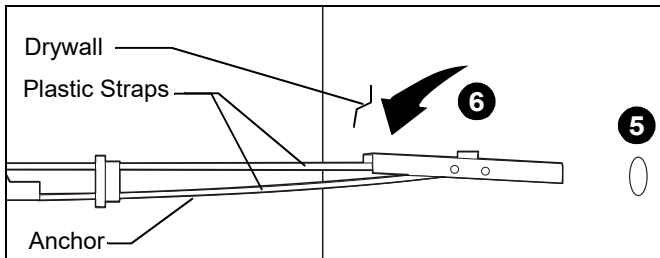
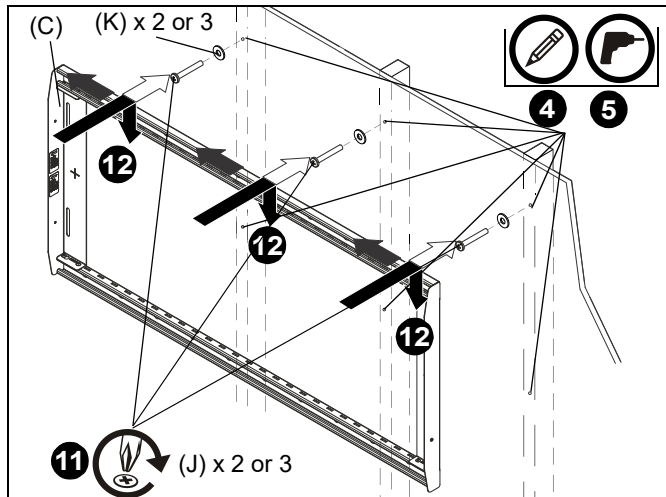
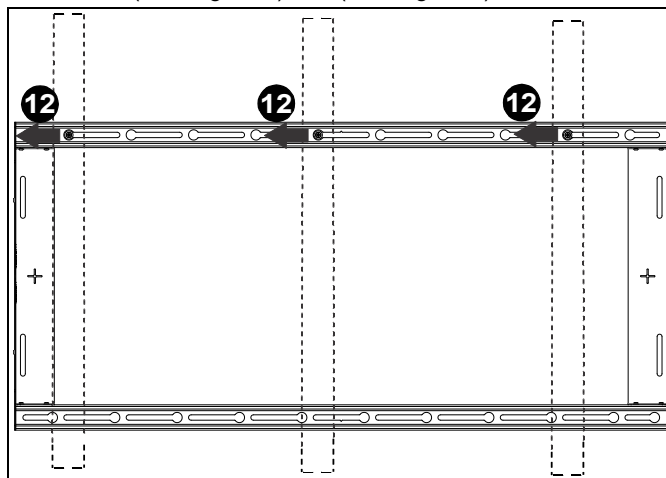

Figure 3
Figure 6
Figure 7
4. Using a level, mark the wall on each stud to attach the mount through the mounting slots. (See Figure 6)
5. Drill four or six 1/2" (12.7mm) pilot holes (one in each stud) at the site of the upper and lower mounting holes. (See Figure 3) and (See Figure 6)
6. Hold metal channel on anchor (L) flat alongside plastic straps and slide channel through hole. (See Figure 3)
11. Partially install two or three 1/4-20 x 2" Phillips pan machine screws (J) and two or three 1/4" washers (K) into anchors (L) but do not tighten to wall. (See Figure 6)
12. Hang rail assembly (C) and slide it slightly to the left until screws (J) are clear of keyhole slots and able to hold mount to wall. (See Figure 6) and (See Figure 7)